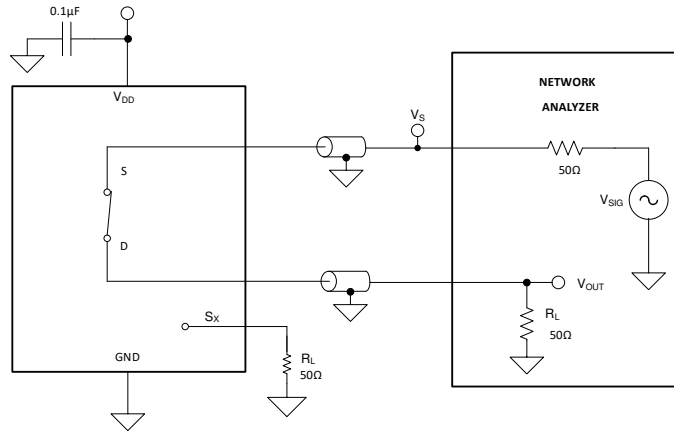

图 6-9. Bandwidth Measurement Setup
Bandwidth is defined as the range of frequencies that are attenuated by less than 3 dB when the input is applied to the source pin (Sx) of an on-channel, and the output is measured at the drain pin (D) of the device. 图 6-9 shows the setup used to measure bandwidth.